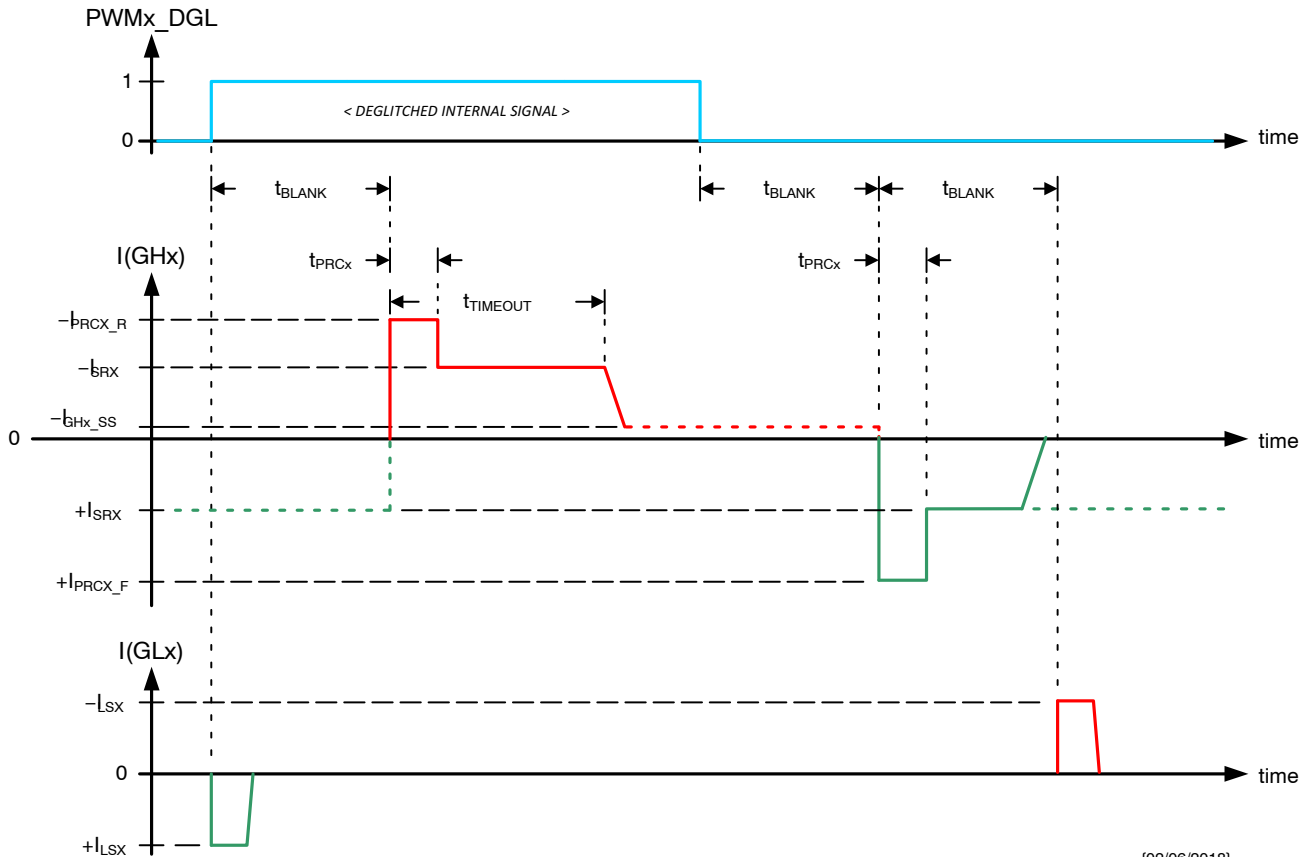
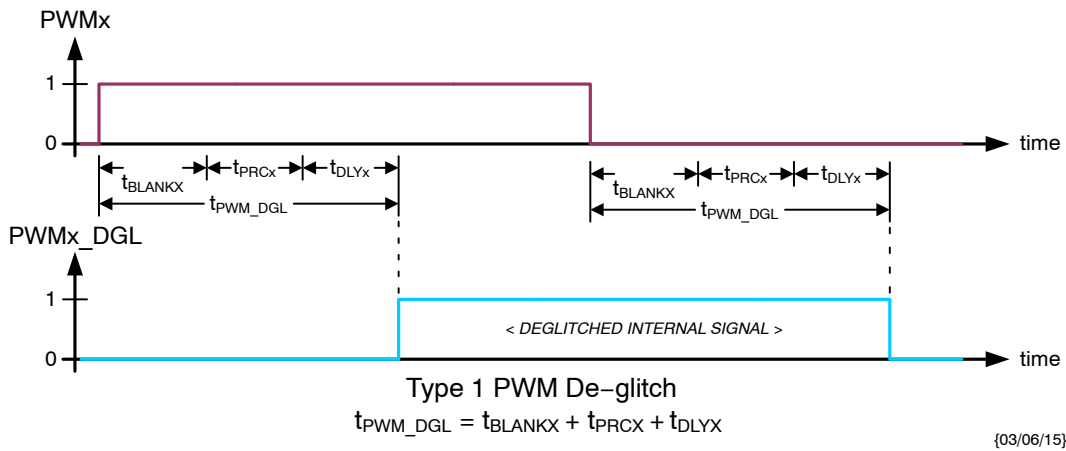
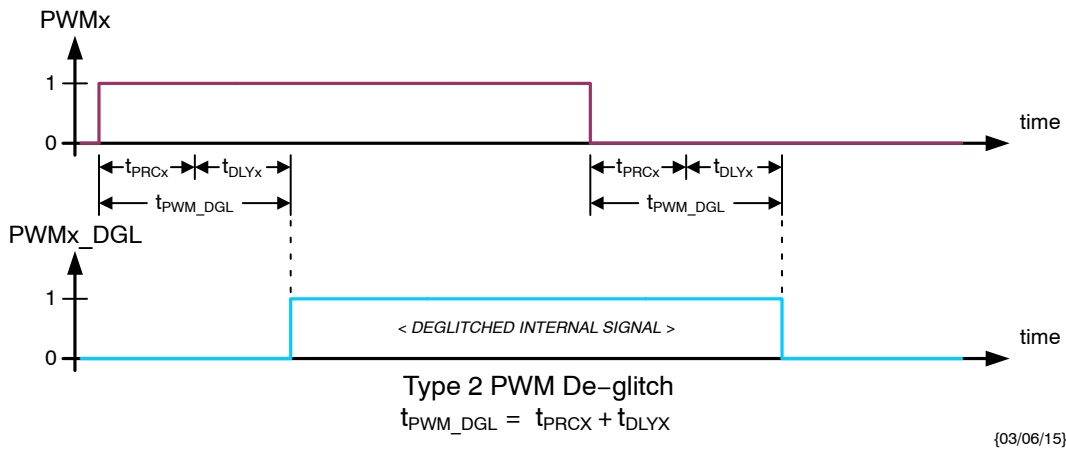
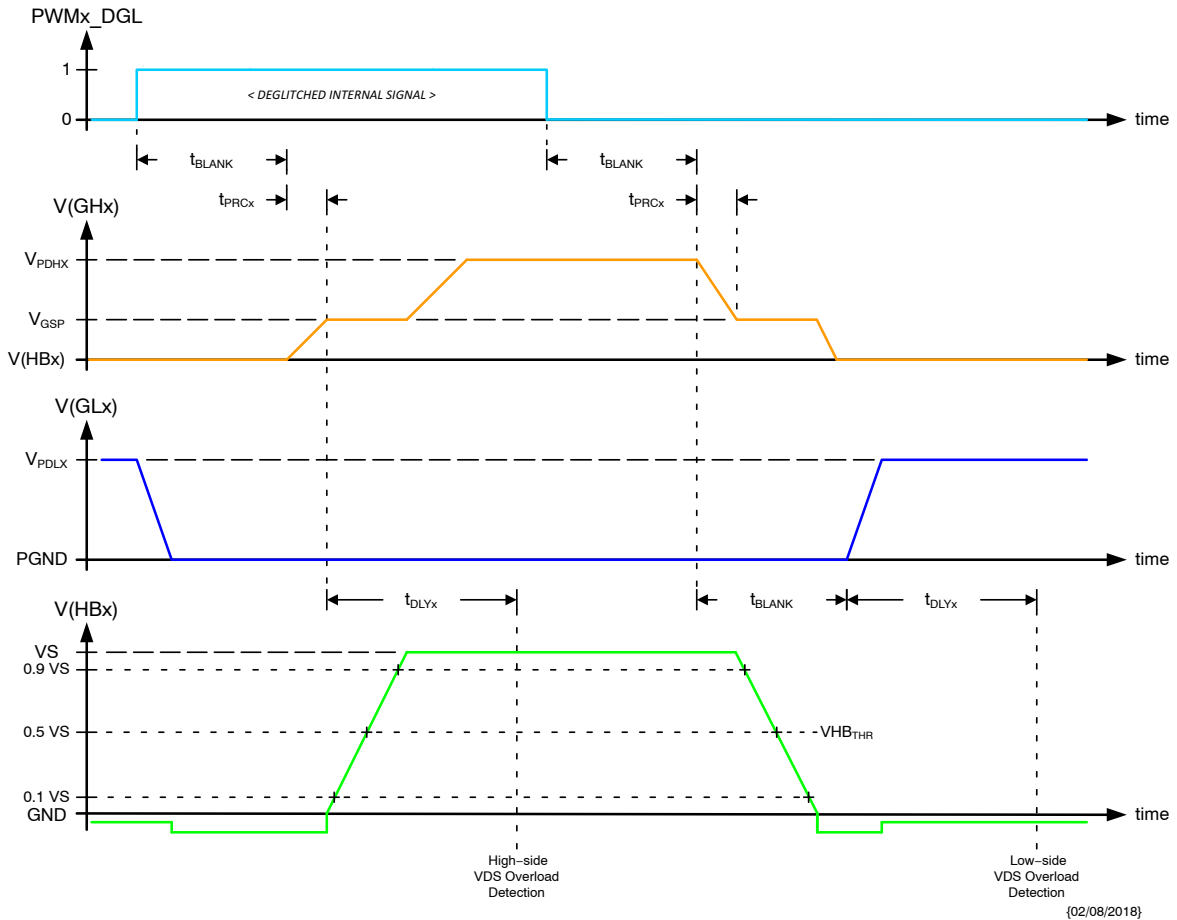

Figure 9. Gate Drive Current Evolution
Figure 10. Type 1 PWMx Input De-glitch – CR14.DGLx = 0
Figure 11. Type 2 PWMx Input De-glitch – CR14.DGLx = 1
Figure 12. HBx Output Switching in Half-Bridge Configuration
When multiple PWM_x inputs are needed to be active, the scheduled PWM signals should be offset in time to avoid degradation of the VDS overload detection due to crosstalk (see § *Overload Protection*). The minimum offset should be based on the t_{PWM_DGL} times appropriate for the respective channels (see § *Switching Behavior of Half-bridge Drivers*, Figure 10 and Figure 11).
The external high-side NMOS switches are controlled with gate pre-charge and slew phases, while the external low-side switches are controlled via simple drive stages supplying a nominal 4x multiple of the selected high-side driver slew current (see Figure 9 and § *Electrical Characteristics: Pre-driver Slope Control*). The timing for the gate drivers is provided by the digital logic, where the key parameters can be programmed via SPI in order to adapt different MOSFET types and application switching speeds.
- adaptive PWM input de-glitch construction when in half-bridge configuration is selected by DGLx[6:0] bits (see Figure 10, Figure 11, Table 21 and Table 22).
In order to not overload the charge pump circuit in case of loss of VS or in case of a disconnected security switch, the steady state output current of the high-side gate drivers is limited to I_{GHX_SS} after $t_{TIMEOUT}$ (see $I(GHX)$ in Figure 9 and § *Electrical Characteristics: Half-Bridge Pre-Driver Outputs*).
When operating in PWM mode, type 1 de-glitch is selected when CR14.DGLx = 0 (see Figure 10) and the adapted time is given by:
Type 2 de-glitch is selected when CR14.DGLx = 1 (see Figure 11) and the adapted time is given by:
When operating in PWM mode, the timing of the gate drivers is according to Figure 12.
In the pre-charge phase ($V_{GHx} < V_{GSP}$) the GHx output delivers the selected rise (I_{PRCx_R}) or fall (I_{PRCx_F}) current for the selected time (t_{PRCx}), and in the slew phase ($V_{GSP} \leq V_{GHx} \leq V_{PDHX}$) the GHx output delivers the selected current (I_{SRx}) for up to the gate drive timeout time ($t_{TIMEOUT}$). After $t_{TIMEOUT}$, the GHx output delivers the timeout current (I_{GHx_SS}). The GLx output always delivers a multiple (I_{LSx}) of the selected slew current (see Figure 9 and § *Electrical Characteristics: Half-Bridge Pre-Driver Outputs, Pre-driver Slope Control*).
- the $PWMx_DGL$ resulting from the channel's operating configuration (see § *Switching Behavior of Half-bridge Drivers*, Figure 10 and Figure 11);
The delay time t_{DLYX} is started after the adapted t_{PWM_DGL} at the start of the switch activation (see Figure 10 and Figure 11, and V(HBx) in Figure 12). In the case of the high-side MOS, the delay time is started at the end of the pre-charge time t_{PRCX} . In the case of the low-side MOS, the delay time is started concurrent with the GLx turn-on current (see I(GLx) in Figure 9). At the end of time t_{DLYX} the switching node voltage is compared with the appropriate VDS_{THR_R} or VDS_{THR_F} overload detection threshold (see § *Electrical Characteristics: Half-Bridge Diagnostics*).